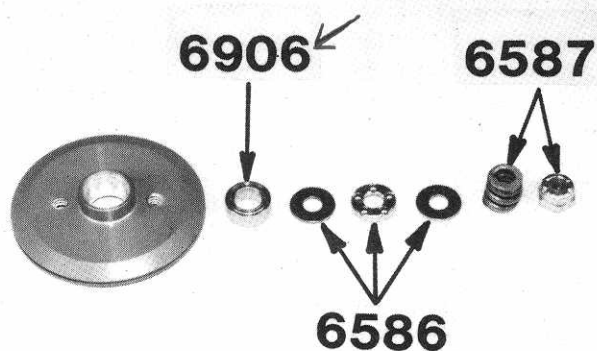

Fig. 65
□ **Fig. 65** Now we'll be assembling these parts, in the order shown, onto the shaft. First, install the #6906 ball bearing into the clutch hub, and then slide the hub onto the shaft, making sure the clutch disk stays centered on the hub.